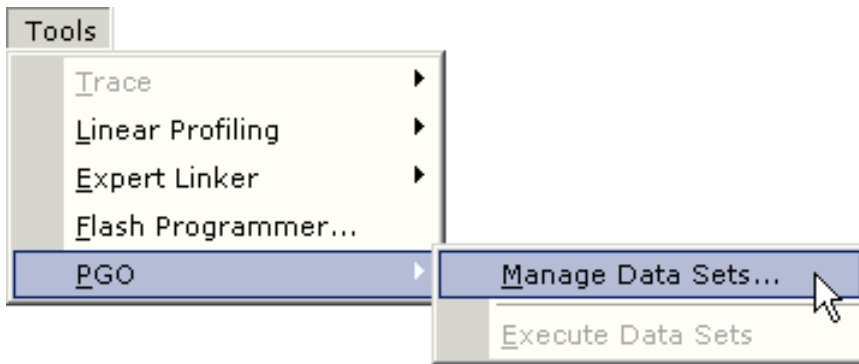

Figure 3-1. Manage Data Sets Menu Option
1. From the **Tools** menu, choose **PGO** and then **Manage Data Sets**, as shown in Figure 3-1.